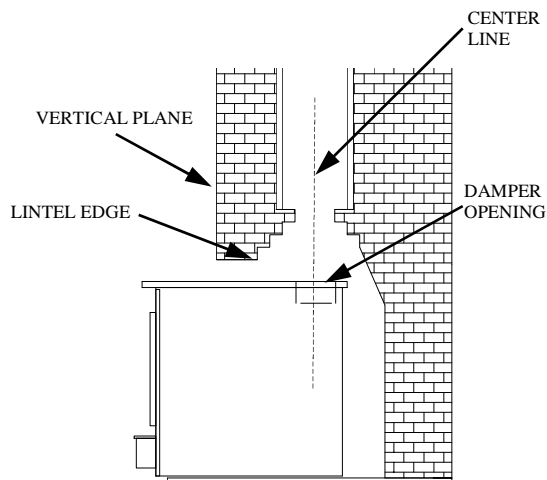

FIGURE 2 POSITIONING
When positioning heater, the following conditions **MUST** be met! (See Figure 2.)
1. The front of damper opening must be positioned **BEHIND** rear edge of lintel to ensure proper draft. (See Figure 2.)